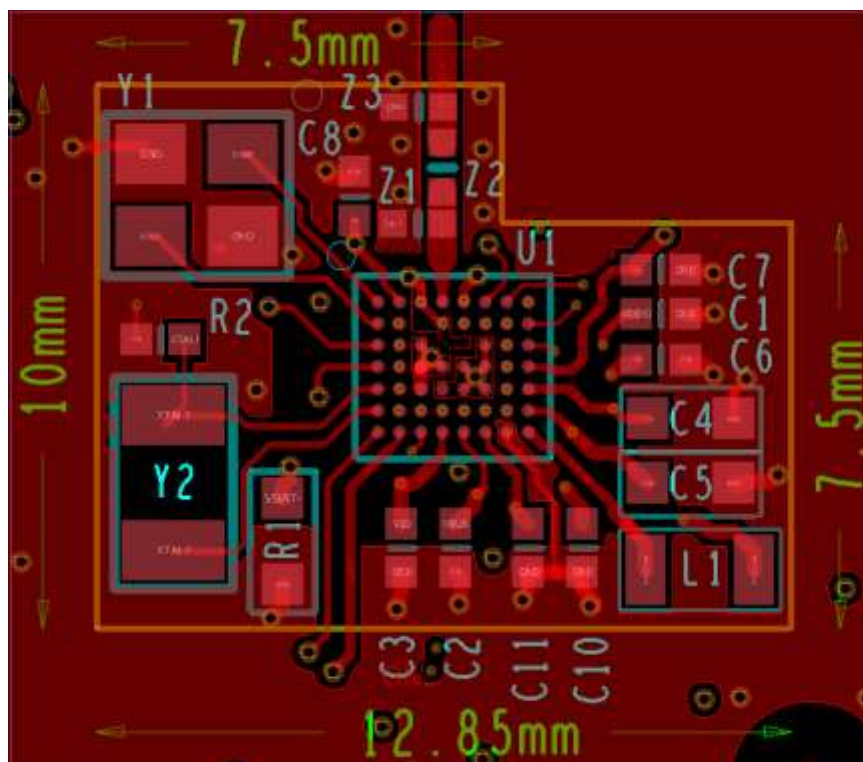
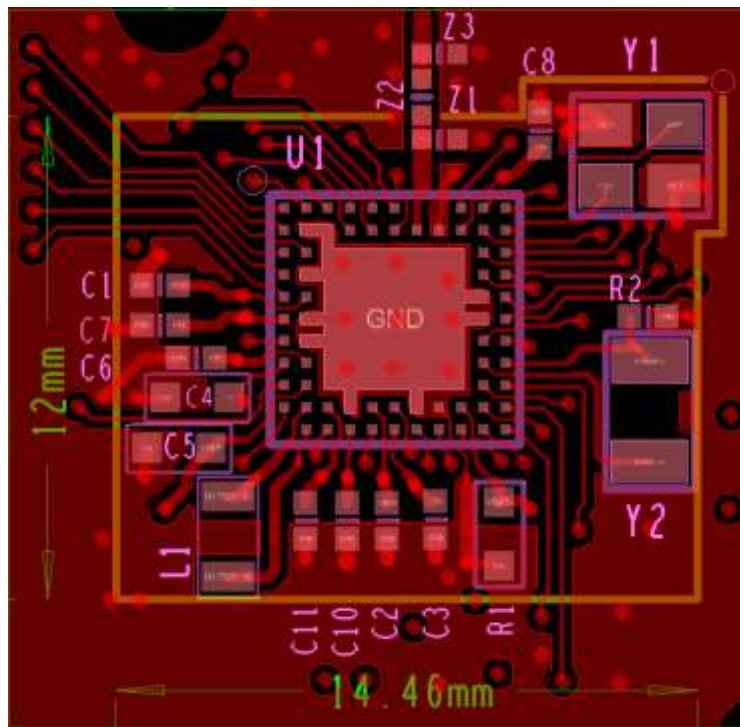

Figure 28: WLCSP53 PCB layout, top side
Figure 33: AQFN60 PCB layout, top layer
- Make sure that the component's GND are connected on the same GND plane (left-hand side of the transmission line in Figure 28 and right-hand side in Figure 33).
An example pcb layout, where all signals are extracted, is presented below (Figure 28). This is a 4 layers pcb, in 1-2-1 configuration. Microvias, 100 μ m - 250 μ m were used between layers Top (L1) – L2 and L3- Bottom (L4). No buried vias have been used. Finally the PTH vias are 200 μ m - 450 μ m (drill diameter - pad diameter).
- Place the 16 MHz or 32 MHz crystal used as reference for the BLE radio as close as possible to the IC. This will minimize any additional capacitive load on the input pins and reduces the chance of crosstalk and interference with other signals on the board. For the same reason, please provide openings in the nearest ground layer under the 'hot' pads of the 16 MHz or 32 MHz crystal. Please refer to Figure 28.
- A decoupling cap should be placed very close to GND_BUCK and VBAT1, as is presented on Figure 28.
- Place the 16 MHz or 32 MHz crystal as close as possible to the IC. This will minimize any additional capacitive load on the input pins and reduces the chance of crosstalk and interference with other signals on the board. For the same reason, please provide openings in the nearest ground layer under the 'hot' pads of the 16 MHz or 32 MHz crystal. Please refer to Figure 33.
In order to avoid potential BOD problems when the SIMO BUCK DCDC is active (lifting of the internal BOD reference voltage caused by large DCDC peak currents), a ground via connected to a solid ground-plane near the DCDC_BUCK exposed ground stub must be present. In Figure 33 it's the most bottom-left placed via in the ground under the chip. This Buck DCDC_Ground is located between the VBAT2, VBAT1 and VBUS pins: between pins B6 and B7.